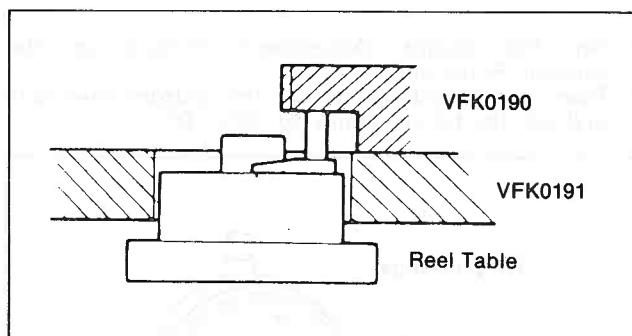

Figure M37
4. Measure the meter indication of top surface of reel table as shown in Figure M37. And then perform the same measurement and confirmation for the other reel table.